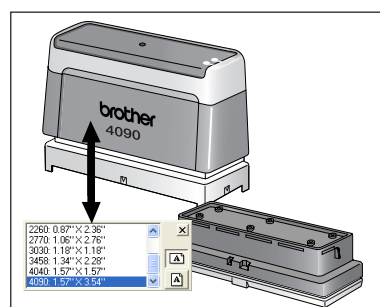
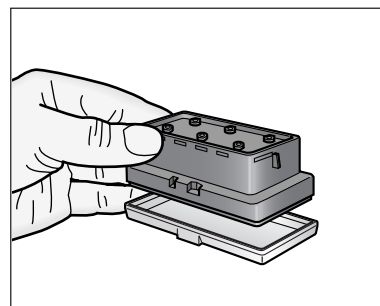

figure 2
figure 3
- ❸ Select a blank stamp pad in the desired size. Make sure that the stamp size you have selected in the drop-down list matches the size indicated on the stamp holder (see figure 2).
- ❹ Remove the cap from the stamp.
**NOTE:** Do not reuse an ink pad after ink has permeated the pad's surface (see figure 3).